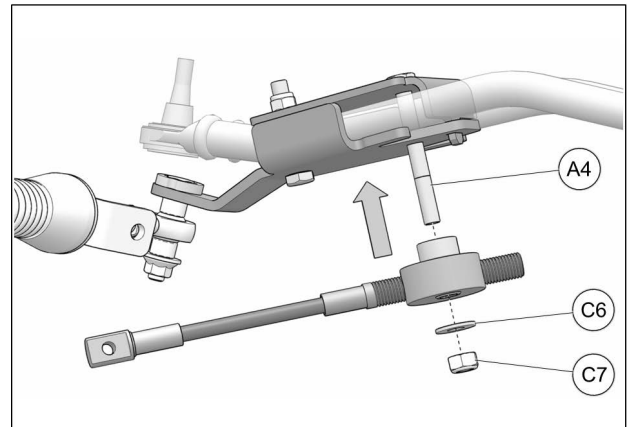

Fig. 28
14. Slip steering limiter cable assembly over M10x90mm bolt (A4) previously installed in step 5. Use supplied washer (C6) and nut (C7) to secure steering limiter assembly in place. Tighten nut to 50 Nm [37 lb•ft]. Refer to Fig. 28